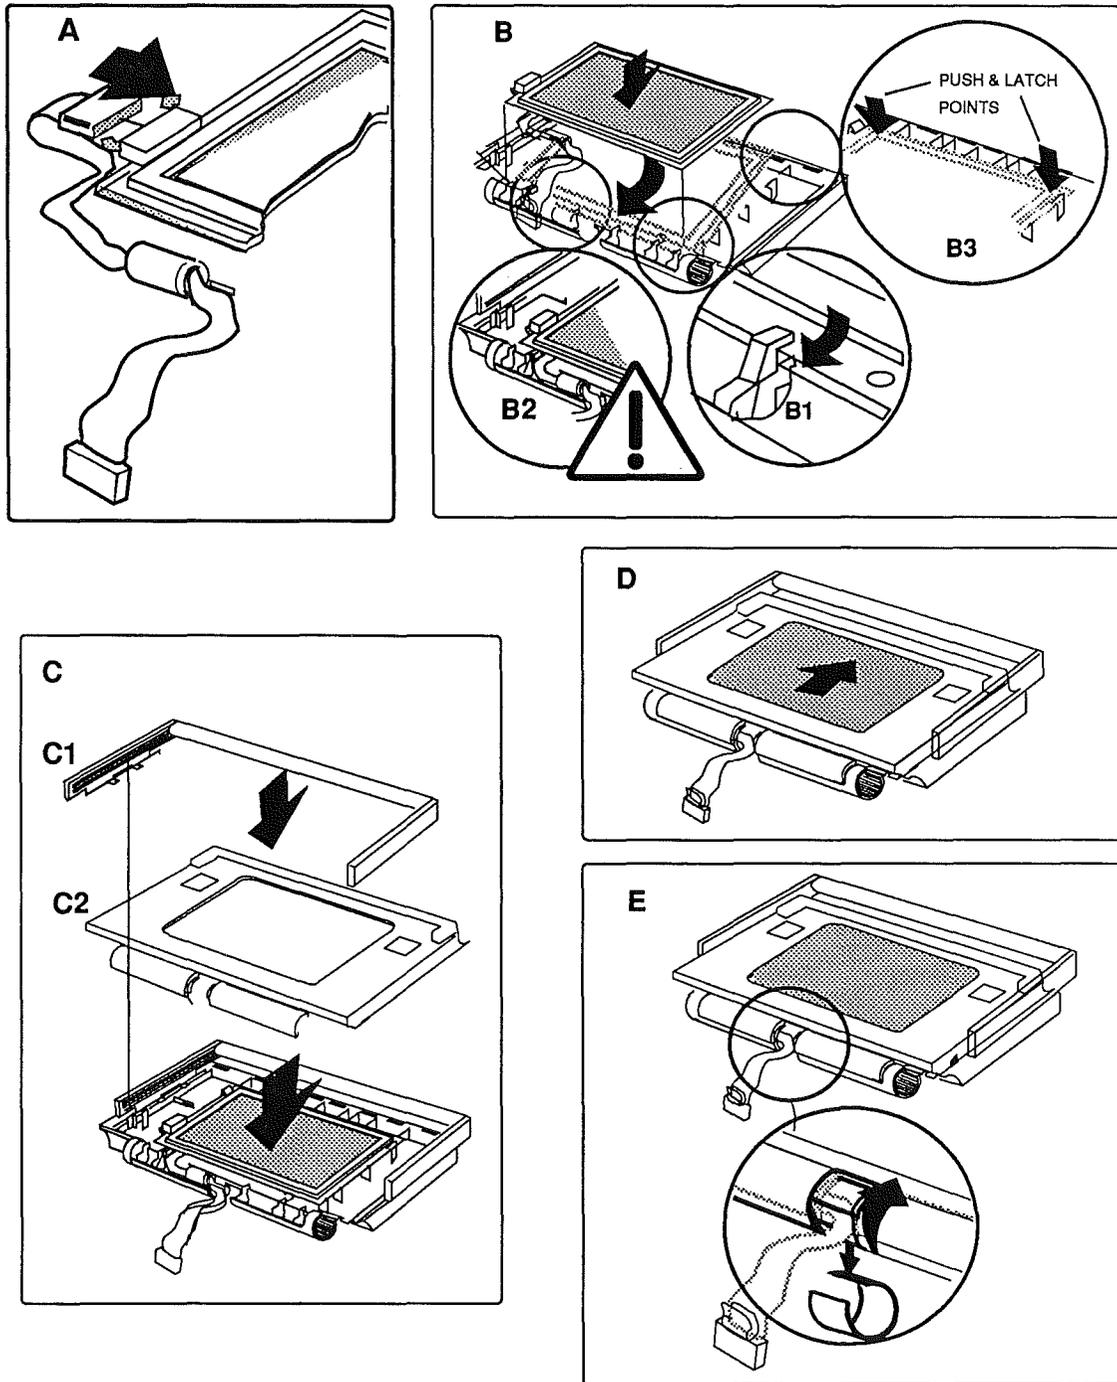

FIGURE 15
1. **Figure 15-A.** Connect the display cable to the display.
2. **Figure 15-B1.** Place the bottom edge of the display into the two plastic clips at the bottom of the display housing.
Note: Figure 15-B2. Make sure the display cable is placed as shown. The cable must lie flat under the display, and the cable and ferrite bead must be carefully placed in the channel.
4. **Figure 15-B3.** Press down on the corners of the display with your thumbs until it snaps in place.
5. **Figures 15-C1.** Place the carrying handle in position in the display housing. The plastic clips should be in the channel at the edge of the housing..
6. **Figure 15-C2.** Place the display bezel on the housing as shown in the illustration. You'll need to hold the carrying handle in position while you do this.
7. **Figure 15-D.** Slide the bezel evenly toward the top of the housing as shown in the illustration.
8. **Figure 15-E.** Snap the center pivot cover back on the display pivot as shown in the illustration.